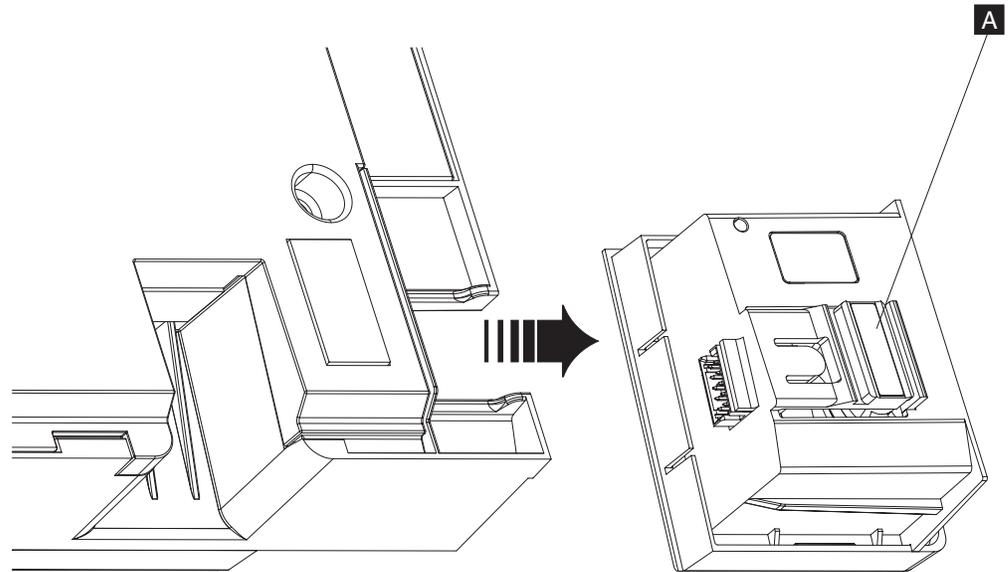

Figure 43. Removing the keylock or biometric device from a modular keyboard
3. Press the blue button on the bottom-right corner of the keyboard and slide it to the right, as shown in Figure 43 on page 45.
1. Slide the keylock or biometric device to the left, along its alignment tracks (reverse the action in Figure 43). Ensure that it fits firmly into its plug on the keyboard and that the blue button fully reengages.